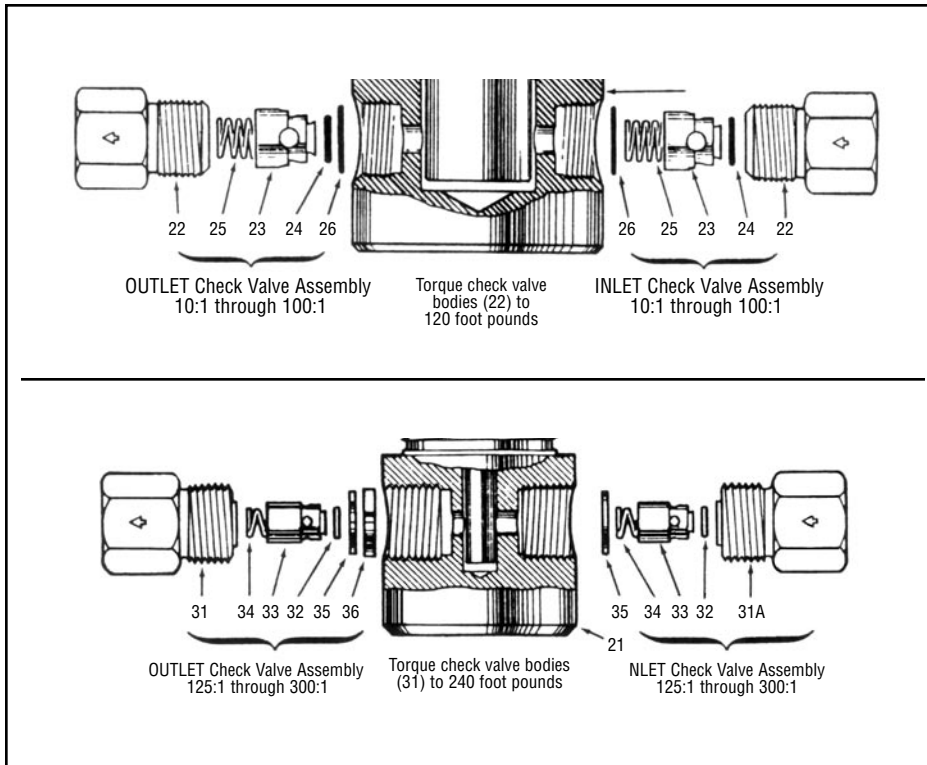

Figure 7-2 Inlet and outlet check valves, sequence of assembly.
7.2 Reassemble and install inlet and outlet check valves into fluid body (21). See Figure 7-1. Note order of assembly and position of poppets (23 and 33) by referring to Figure 7-2. Note torque instructions in illustrations. DO NOT over-torque valve bodies (22 or 31) and be careful to avoid crossing threads when installing check valve bodies. On completion, remove from vise.